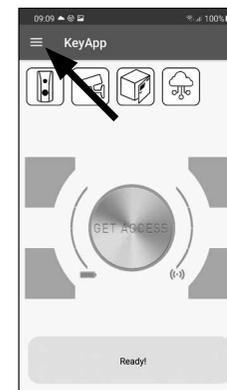

Fig. 16
- 1 Open the main menu (Fig. 16).